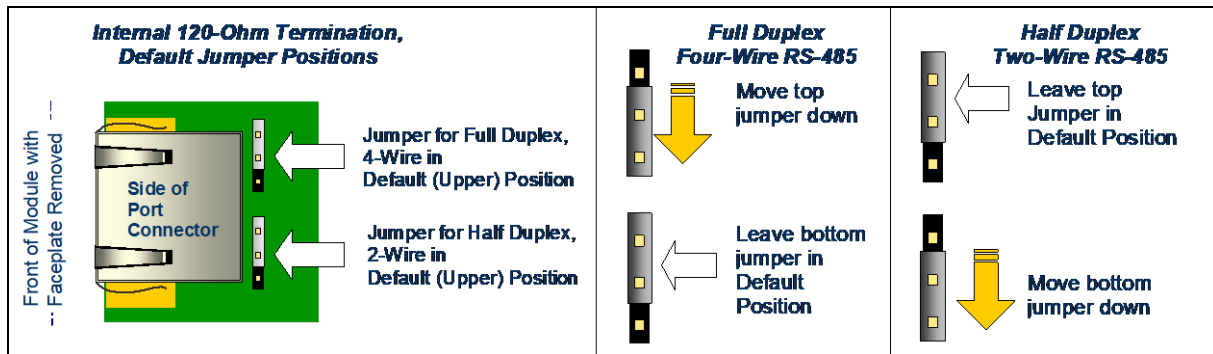

Figure 376: Using Module Internal Jumpers & Built-in 120Ω Resistor for Termination
- B. Using an external jumper wire. To use this method, do NOT change the positions of the internal jumpers as shown in Figure 376 above. Instead, connect an external jumper wire across connector pins 3 and 7 for RS-485 4-wire, or across connector pins 1 and 4 for RS-485 2-wire.